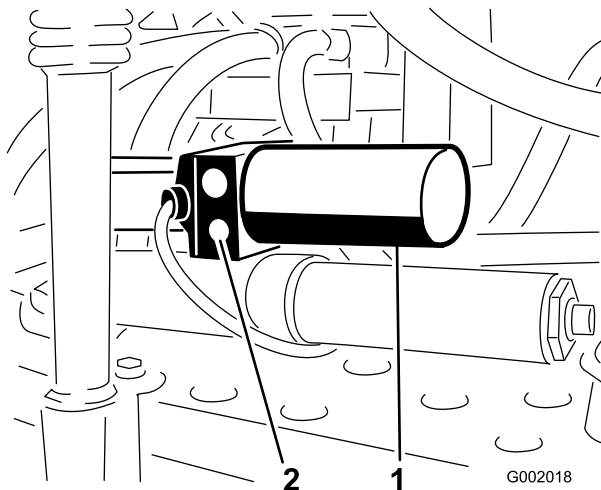

Figure 72
1. Locate the manual relief valve on the actuator for each boom. The manual relief valve is the smaller valve and is only on one side of the actuator body (Figure 72).